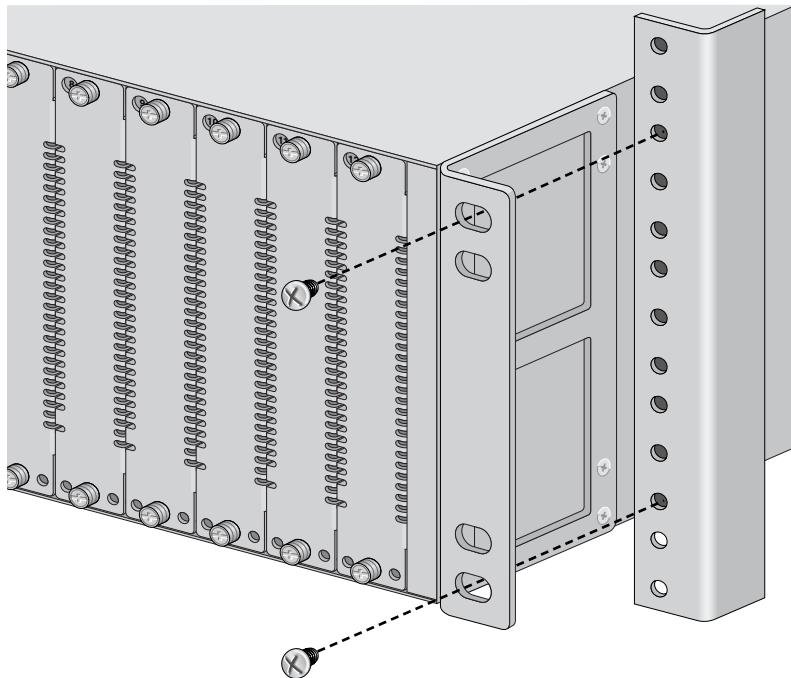

Figure 20 Installing the Chassis in a Rack
4. Attach the chassis to the rack with two screws (not provided) on each side. Refer to Figure 20.